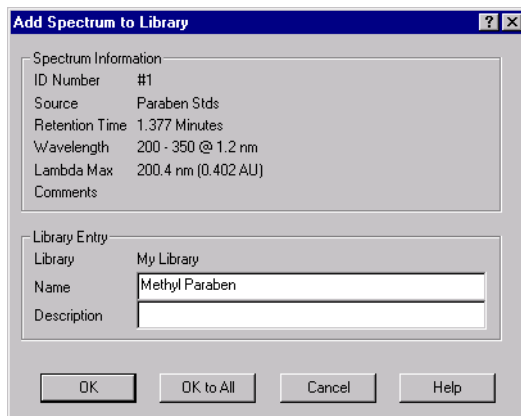

Figure 4-8 Add Spectrum to Library Dialog Box
2. Select **Library > Add to library My Library** to open the Add Spectrum to Library dialog box (Figure 4-8).